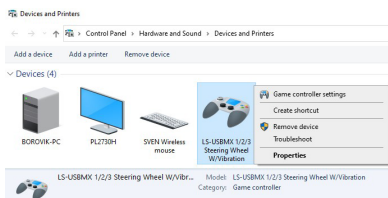
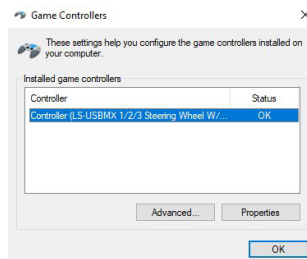
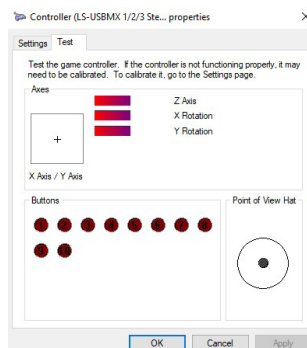

Fig. 4.
Fig. 8.
Fig. 9.
• By default, the steering wheel automatically turns on the X-Input mode, analog mode – the red indicator is constantly on. Press and hold the «MODE» button, the red indicator will flash 3 times, the steering wheel will switch to D-INPUT mode. Switching between analog and digital mode occurs by short pressing of the «MODE» button, the red indicator lights up in analog mode and goes out in digital mode. To test the rudder, enter the test interface, if necessary, perform a key and axle test. Go to the «Control Panel», menu, then click on the «Devices and Printers», icon, in the window that opens, select the «LS-USBMX 1/2/3 Steering Wheel W/Vibration» (Fig. 4), right-click on «Parameters game control devices».
• To check the racing wheel go to the «Control-panel» menu, then click on the «devices and printers» icon, in the window that opens, select the «LS-USBMX 1/2/3 Steering Wheel W/Vibration» shortcut, right-click on «Game device settings control» (see Fig. 4). In the «Game devices» window that opens, click the «Properties» button (see Fig. 8), a window will open for checking the steering wheel and buttons (see Fig. 9).